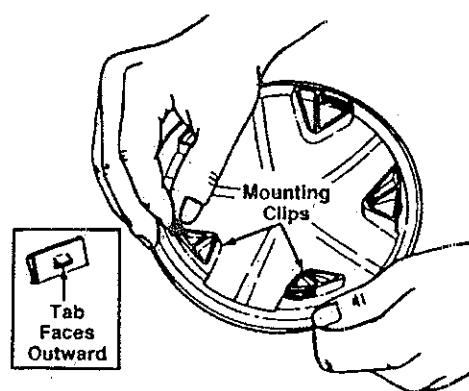

FIGURE 8
- a Slide five mounting clips on each hub cap as shown in figure 8, with the tabs on the mounting clips facing outward.